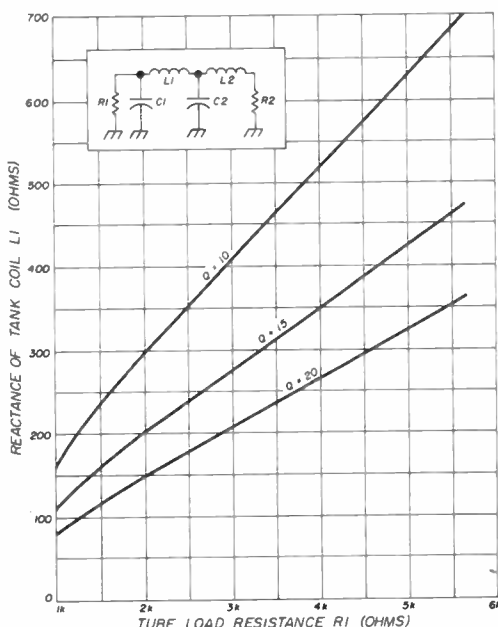

fig. 17. Tank-coil reactance (L_1) as a function of tube load resistance for pi-L networks.
5. Find the reactance of the tank coil (L_1) from fig. 17. For the case of the 3-1000Z operating with a load resistance of 2250 ohms, the reactance of the coil is approximately 215 ohms.